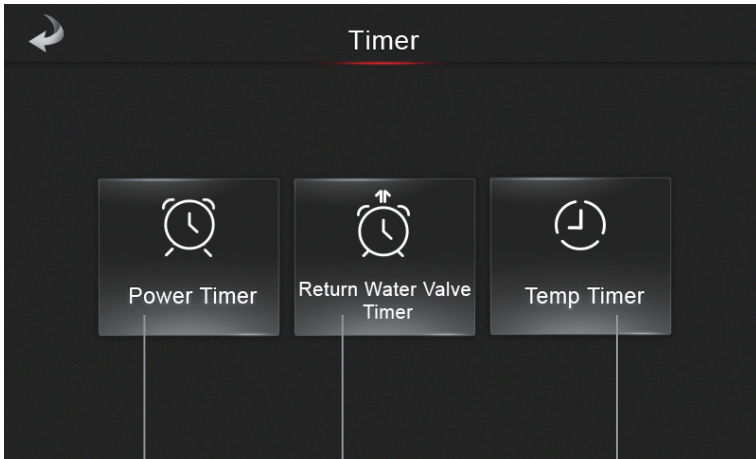
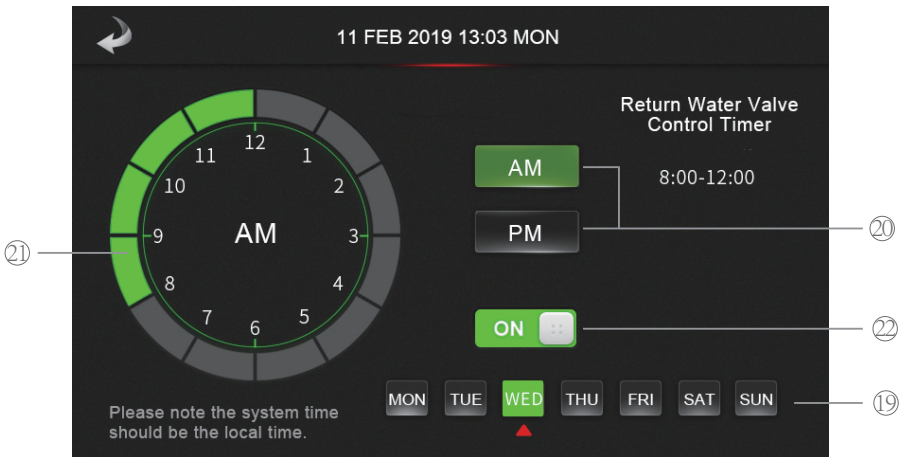
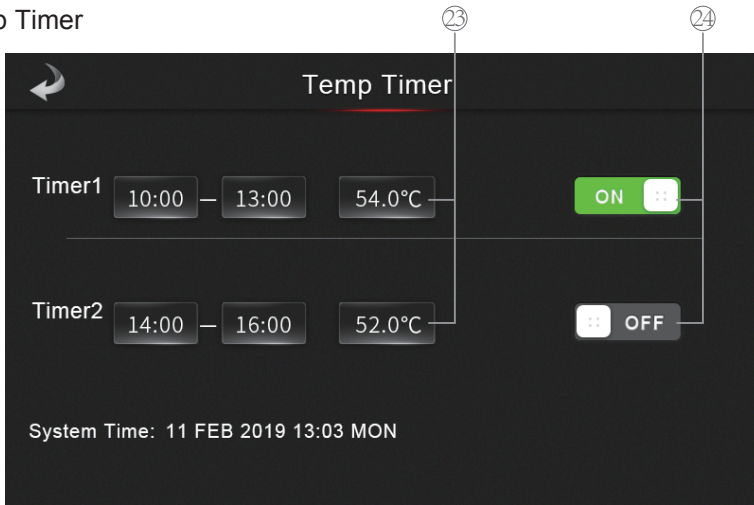

Fig. 4 Timer interface
Fig. 5 Power timer interface
Fig. 6 Temp timer interface
To enable Power Timer function, firstly press Timer button ⑤ in the main interface, secondly press Power Timer button ⑯ (Fig.4), it jumps to Power timer interface (Fig.5), press ⑰ to select the day of the week, press ⑱ to select AM or PM, then press ⑲ to select the time, and lastly press ⑳ to enable or turn off the setting.
To enable Temp Timer function, firstly press Timer button ⑤ in the main interface (Fig.4), secondly press Temp Timer button ⑱ it jumps to Temp timer interface (Fig.6), then enter the starting, ending time and target temperature setpoint value ⑲, and lastly press ⑳ to enable or turn off the setting.